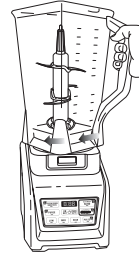

Fig. 3
- 5 Rotate the pitcher clockwise until it locks in place, you will hear a click when the lock is engaged. **(Fig. 3)**